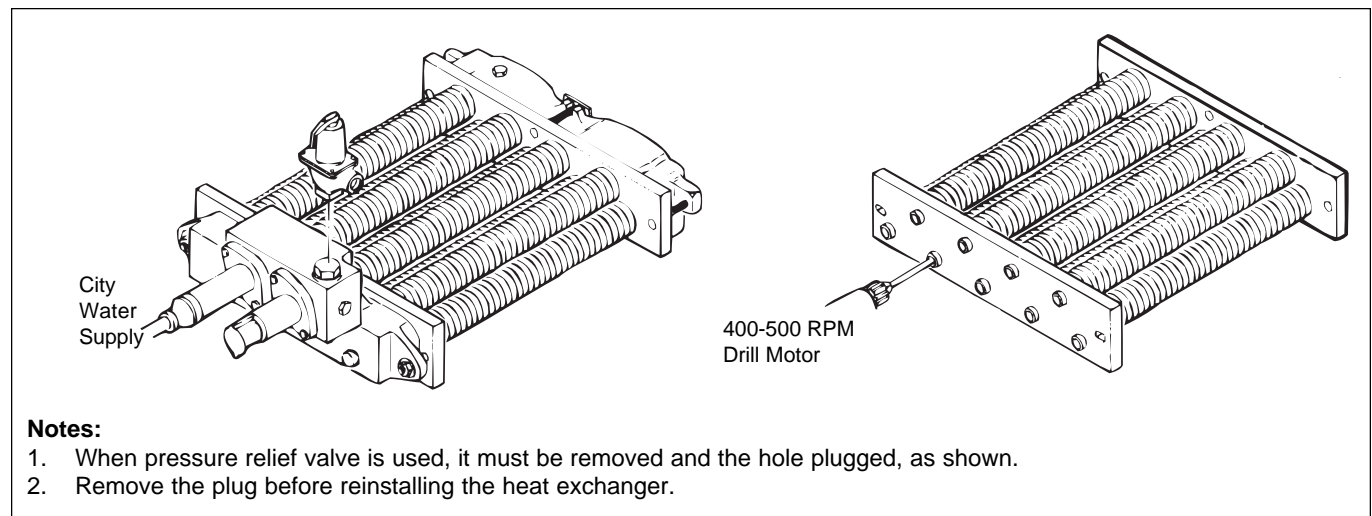

Figure 33. Heat exchanger tube cleaning.
4. Ream the insides of the tubes (see Figure 33).
8. Pressure test the heat exchanger for leaks with city water supply before re-installing (see Figure 33).